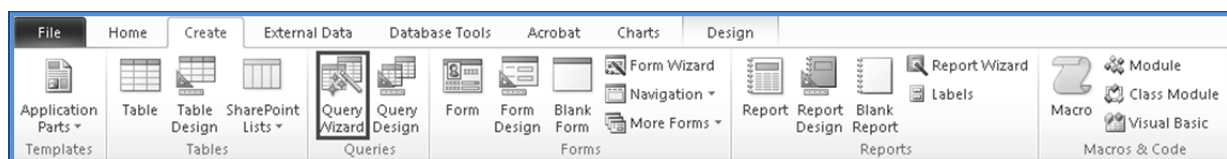

Fig. 1.2.11: Open Query Wizard
1. Open the *Query Wizard* by selecting **Query Wizard** from **Create** -> **Queries**, as indicated in Fig. 1.2.11.